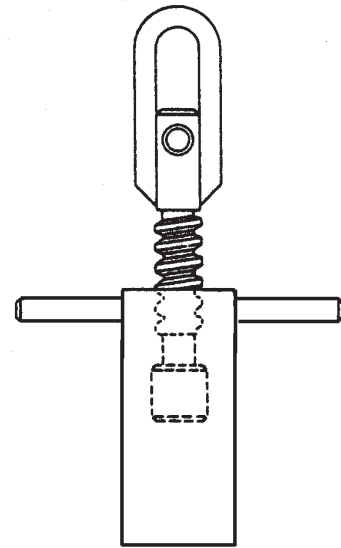

Figure 2-61.—Bowl shell lifter.
8. If removal of the bowl is required, lift out the bowl strainer. Remove the spindle cap nut and back out both lock screws. Screw the lifter (fig. 2-61) onto the bowl shell, and by turning in on the jackscrew the shell will loosen from the spindle. Using the chain hoist, lift the shell from the frame.